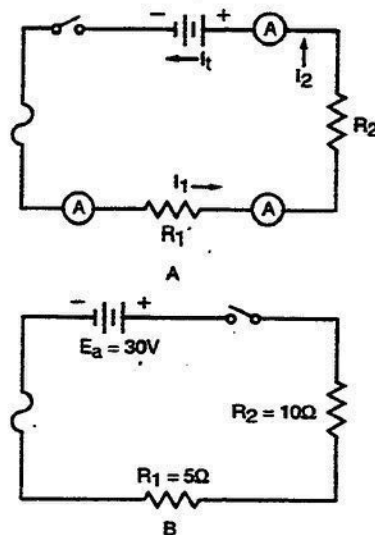

Figure 2-15. Series DC circuits.
**Circuit requirements.** Figure 2-15, A, shows a DC circuit. It is a series circuit because there is only one possible path for current to flow. It contains the three basic requirements for any circuit: a source of power (battery), a load device (resistor), and a conductor (wire).